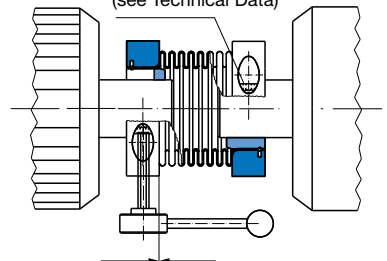

Fig. 6
– see also Fig. 6 and Fig. 8
2. Push the entire coupling over the whole length of the reducing bushing (5) onto a shaft.